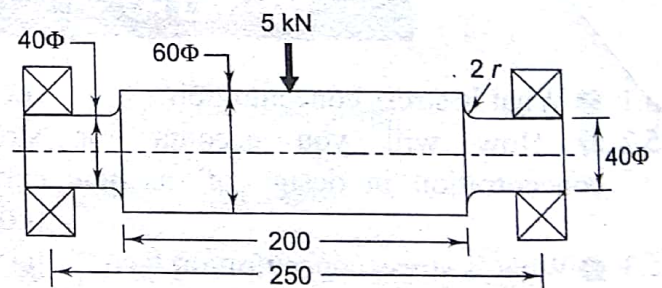

Fig. 5.60
- 5.3 **S** A shaft carrying a load of 5 kN midway between two bearings is shown in Fig. 5.60. Determine the maximum bending stress at the fillet section. Assume the shaft material to be brittle. [LO 1]